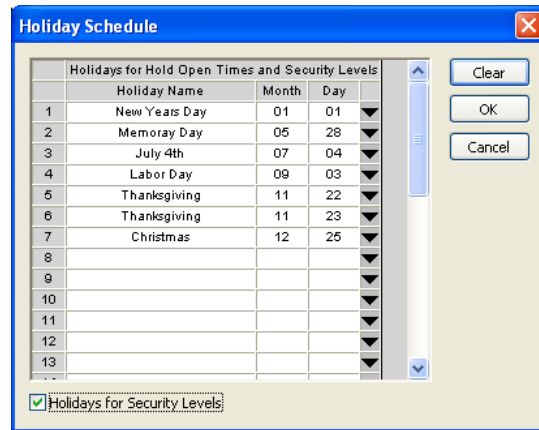

Figure 22
1. Click the HOLIDAY button on the tool bar from the relays window to display the holiday schedule window (Fig 22).